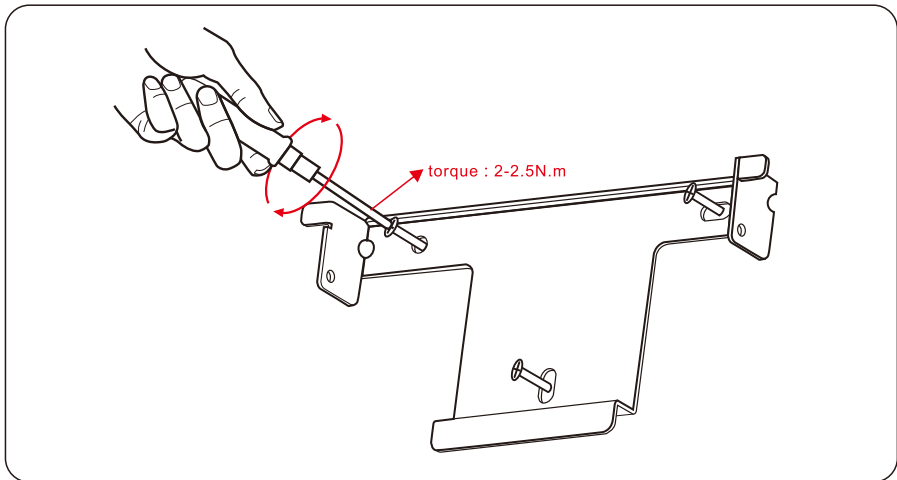

Figure 4.13 Installing the rear panel
Step 5 Align the rear panel with the holes, insert expansion bolts into the holes through the rear panel, and tighten the expansion bolts to a torque of 2-2.5 N·m using a torque wrench, as shown in Figure 4.13.